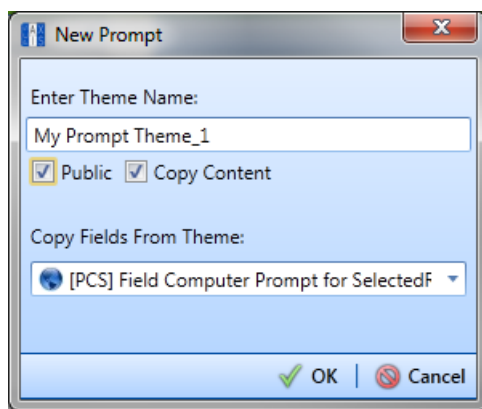

Figure 12-29. New Prompt
- 4 Click the  **Add** button to open the *New Prompt* dialog box (Figure 12-29).